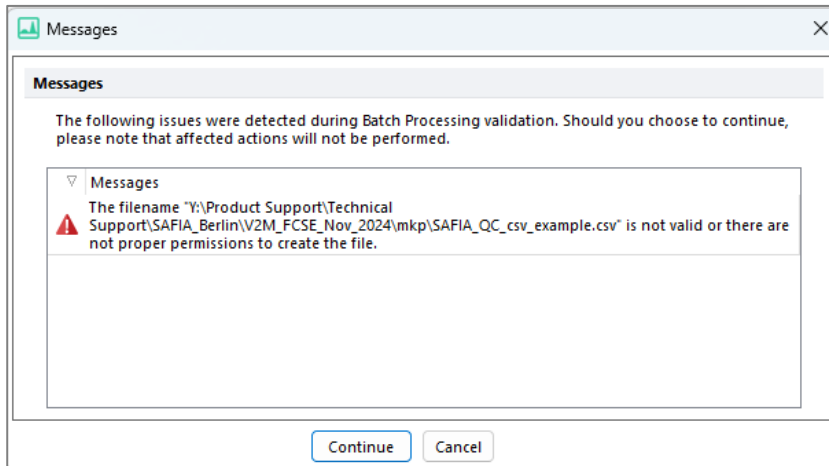

Figure 33. View of the error message in *FCS Express* when converting the .fcs file to a .csv file fails
1. If the error message (see Figure 33) appears when you click *Run*, click *Cancel* and perform the following steps.